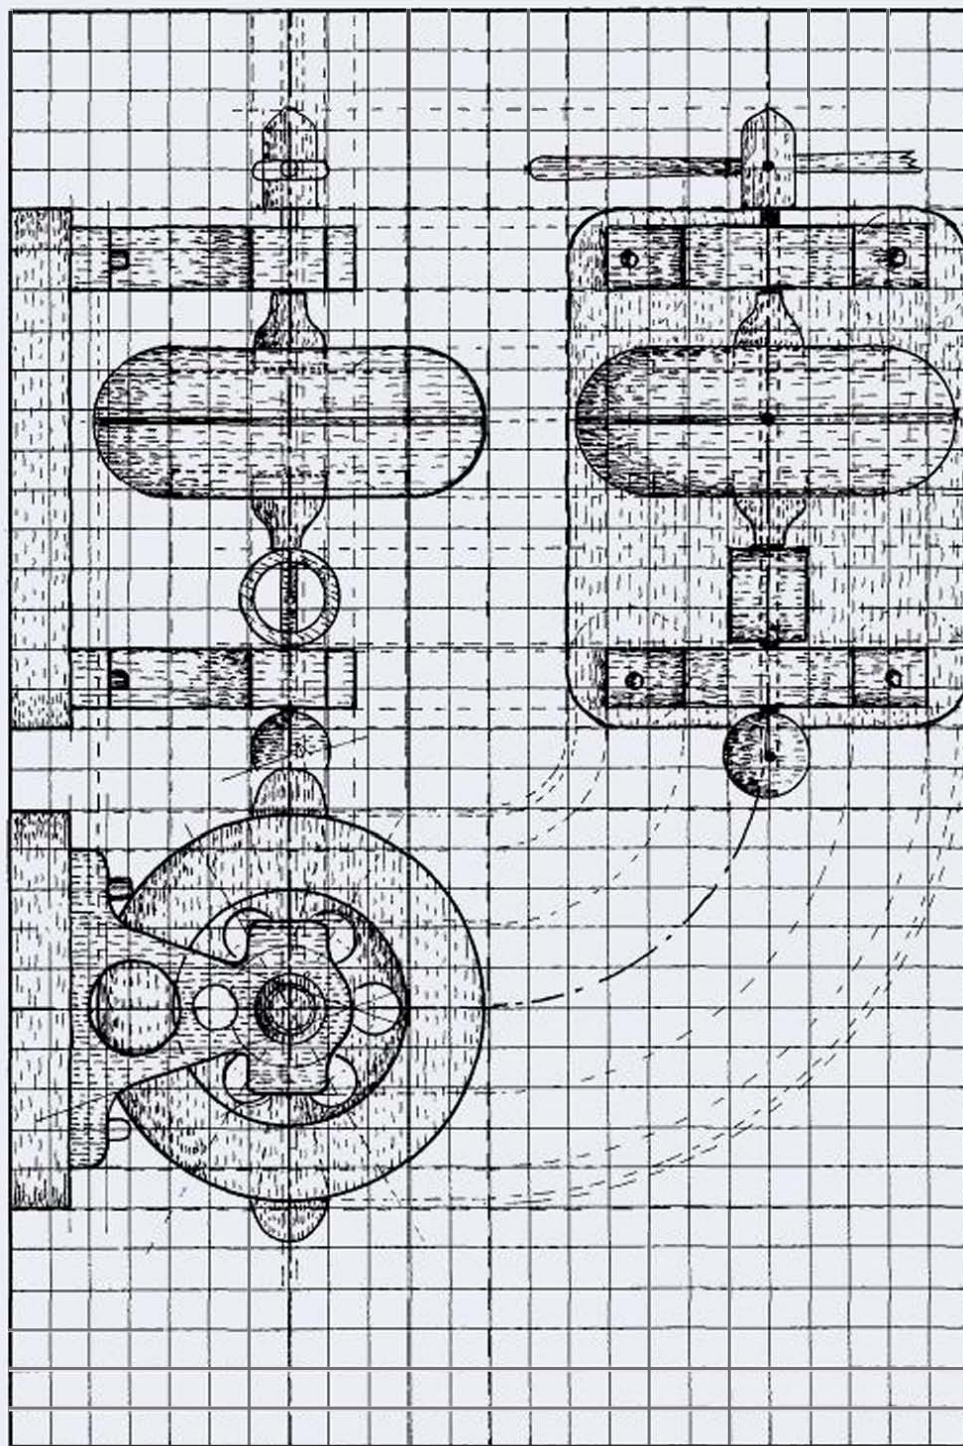

FIGURE 10-1A
Have a good long look at the working drawing (Fig 10-1A) and the templates (Fig 10-1B). Note that the propeller boss, flywheel, bell-shaped distance hubs at either side of the flywheel, pull cord ring, and ball stop at the end of the shaft are all turned.
1 Having studied the working drawing (Fig 10-1A) and templates (Fig 10-1B), take the 3/4"-thick slab of beech—the piece for the base—and mark it with all the measurements that make up the design.
3 Have another look at the working drawing (Fig 10-1A) so you know what goes where and how, and then use a soft pencil, ruler and square to mark the base with all the guide and placement lines. For example, label the propeller end, draw in an end-to-end center line, establish the position of the two stanchions, and so on.
- 1** Have a look at the working drawing (Fig 10-1A) and templates (Fig 10-1B). Apart from the flywheel, there are five secondary turnings: two bell-shaped distance spacers—one either side of the fly-wheel—a ring that holds the pull string, a boss for the propeller blades, and a ball stop at the back end of the shaft.
- 1** Mount your chosen length of wood on the lathe—use a four-jaw chuck—and swiftly turn it down to a diameter of about $1\frac{1}{8}$ " (Figs 10-1A and B).